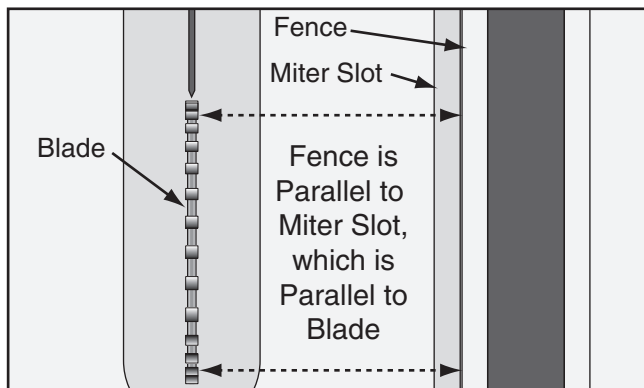

Figure 118. Checking fence parallelism with blade.
- Slide fence up against right hand edge of miter slot, lock it in place, then raise blade to its maximum height. Examine how fence lines up with miter slot and blade, as shown in **Figure 118**.
- If fence/miter slot are parallel with blade, as shown in **Figure 118**, no further adjustments need to be made.